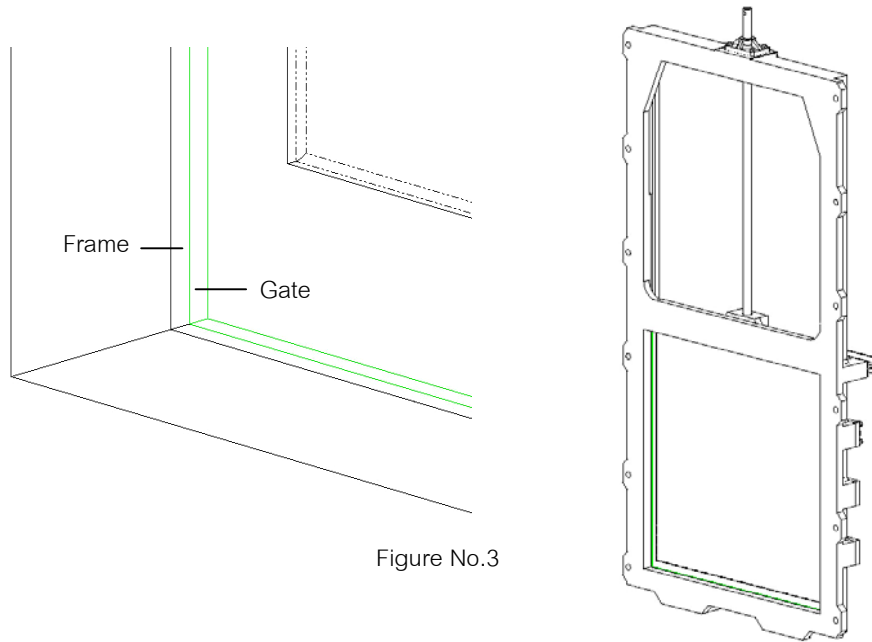

Figure No.3
3. Insert the 0.1 mm. Filler gauge between gate and frame to check the leakage. (Set the penstock until there is no leakage between gate and frame.) (Figure. no.3)